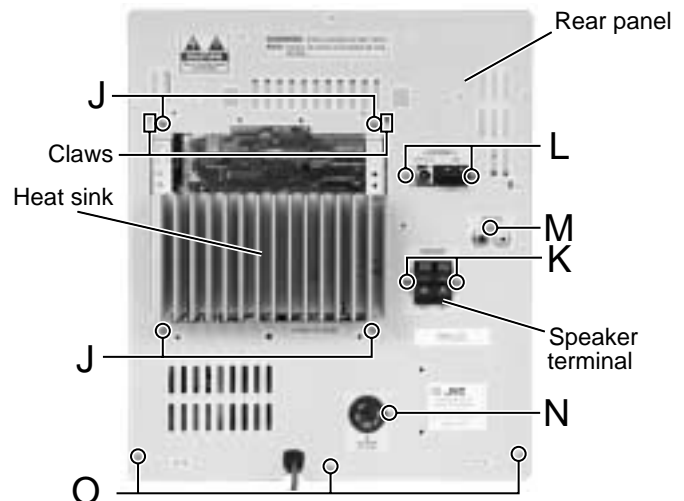

Fig.12
■ Removing the tuner board (See Fig.12 and 13)
■ Removing the rear panel (See Fig.12)
1. Remove the screw **N** attaching the trans. board to the rear panel (see fig.12).